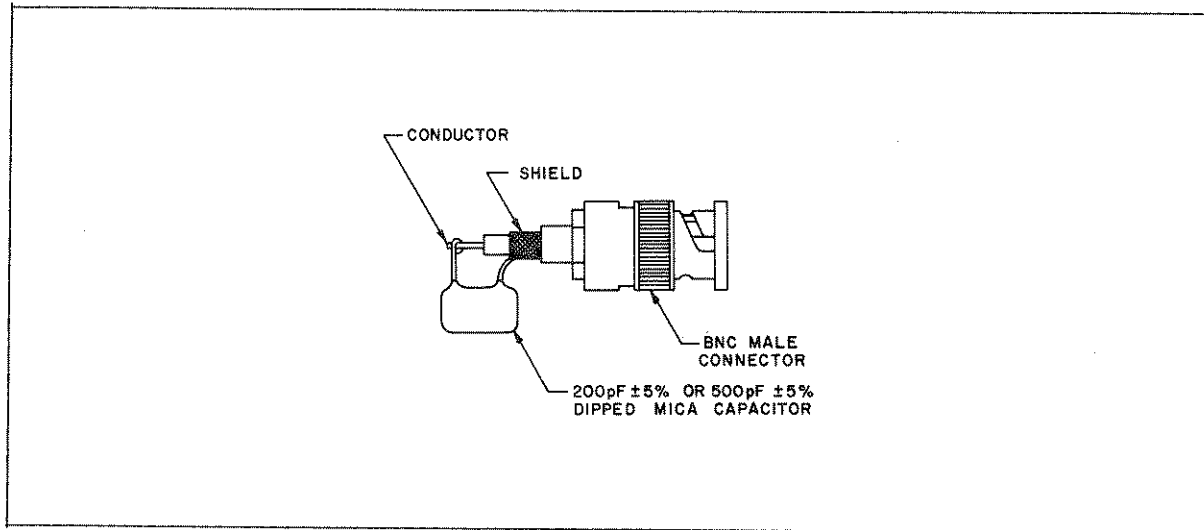

Figure 4-1. Special Loading Capacitor
A. Loading-Error Test. To test for loading error, special loading capacitors of 200 pF and 500 pF should be constructed according to Figure 4-1.